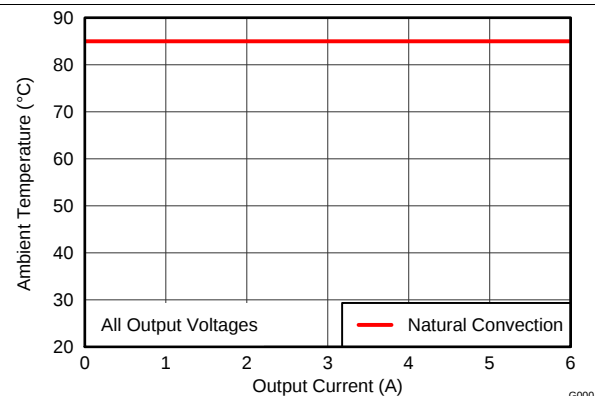

Figure 9. Safe Operating Area
- (11) The temperature derating curves represent the conditions at which internal components are at or below the manufacturer's maximum operating temperatures. Derating limits apply to devices soldered directly to a 100 mm $\times$ 100 mm double-sided PCB with 1 oz. copper. Applies to Figure 9.